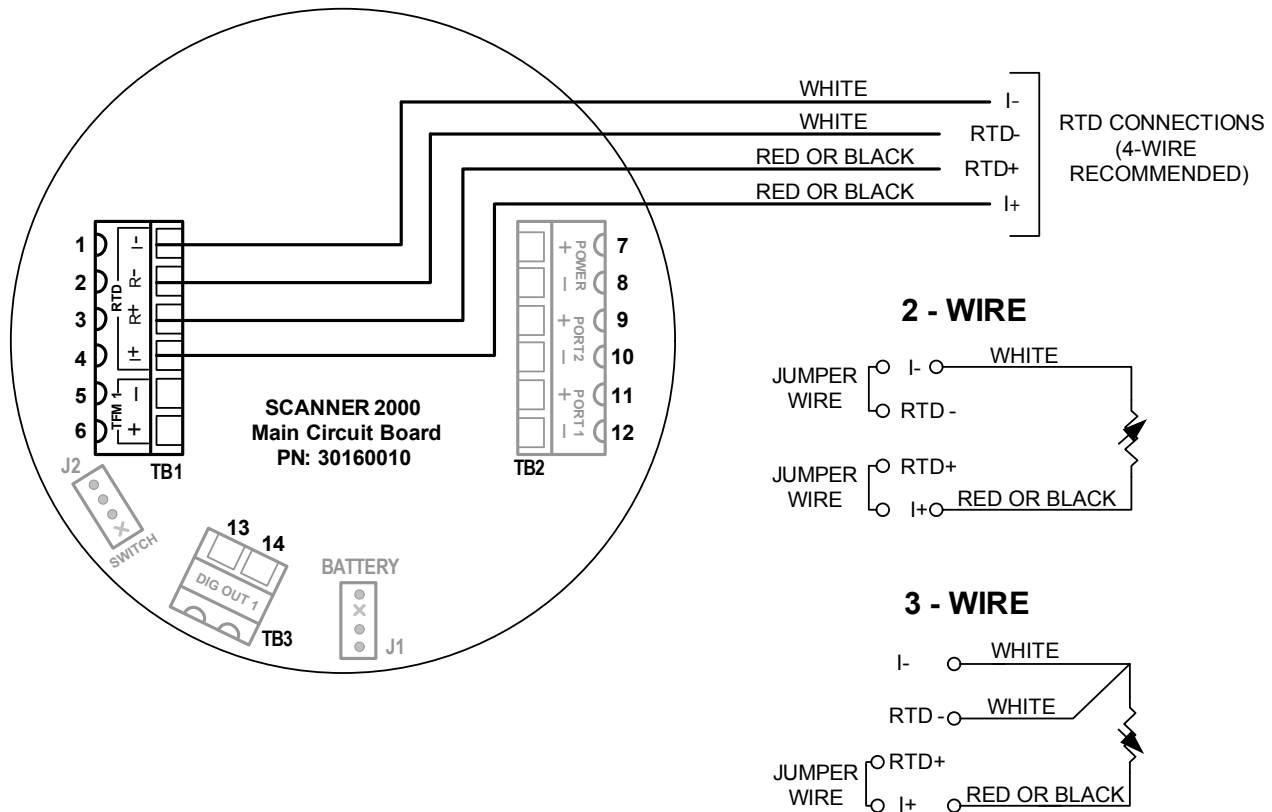

Figure 3.5—Process temperature input wiring
7. Connect the process temperature input wiring to terminal block TB2, if appropriate. See Figure 3.5, page 66.
The RTDs described in Appendix A of this manual are recommended for measuring temperature for use in temperature-compensated gas and liquid calculations, though a 2- or 3-wire RTD may prove functional. Wiring is essentially the same for all three models, though wire color may vary as indicated. Wire as shown in Figure 3.5.